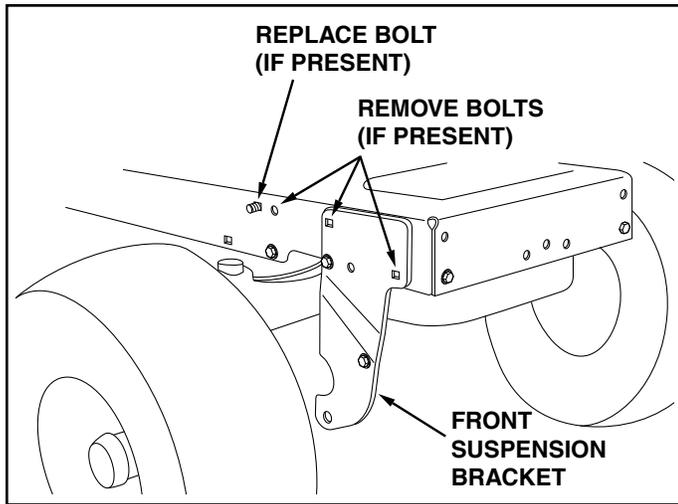

FIGURE 20 RIGHT SIDE VIEW
If your tractor resembles figure 20, start with step 21.
STEP 21: (SEE FIGURE 20)
- If a bolt is present in the fourth hole, replace it with a 5/16" x 1" carriage bolt (K) without a nut. The bracket fastened to inside of frame must remain in place.